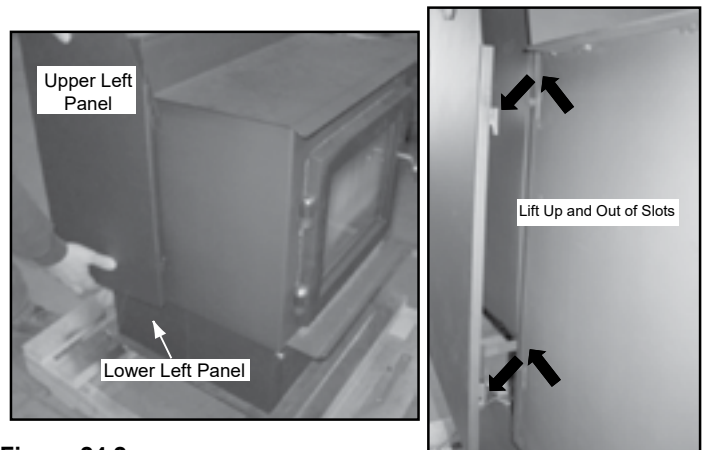

Figure 24.2
5. Remove the left upper and lower side panels by lifting up and out. The hooks on the panels will slide out of the slots on the appliance (**Figure 24.2**).